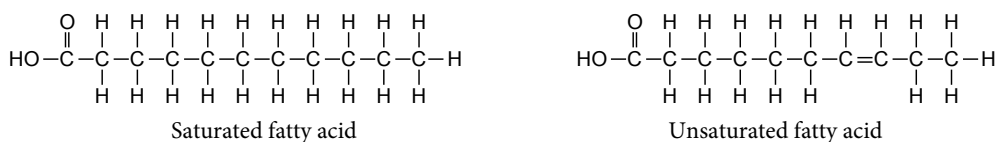

Figure 5.2 Difference between saturated fatty acid and unsaturated fatty acid
- Unsaturated fatty acids have at least one double bond in the carbon chain; whereas saturated fatty acids only have a single covalent bond in the carbon chain as shown in the examples in Figure 5.2.